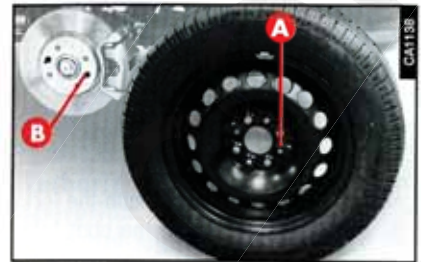

fig. 8
- Fit a normal wheel bearing in mind that the pin (B-fig. 8) must match one of the holes (A-fig. 8).